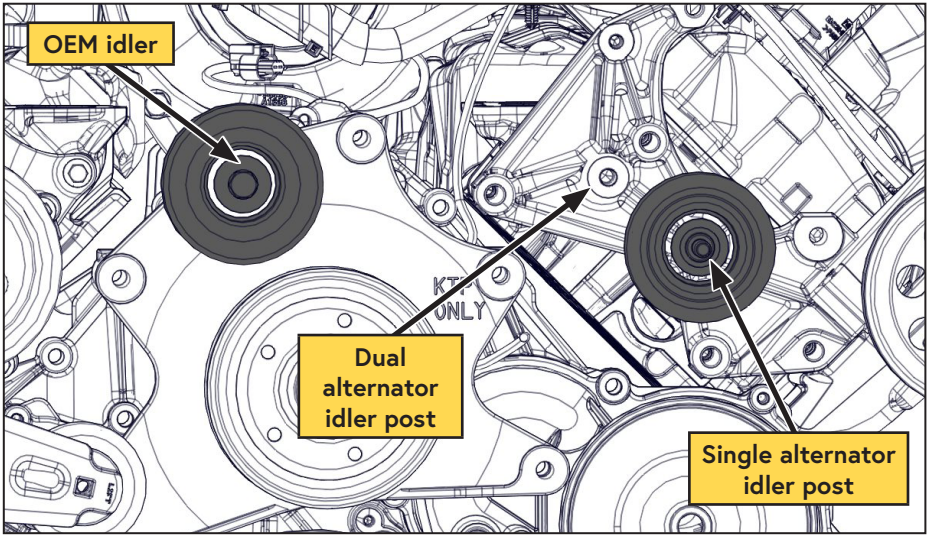

Figure 6 — OEM smooth idlers
- ❑ Remove the (x2) OEM smooth idlers. Discard the idlers but retain the idler fasteners (Figure 6).